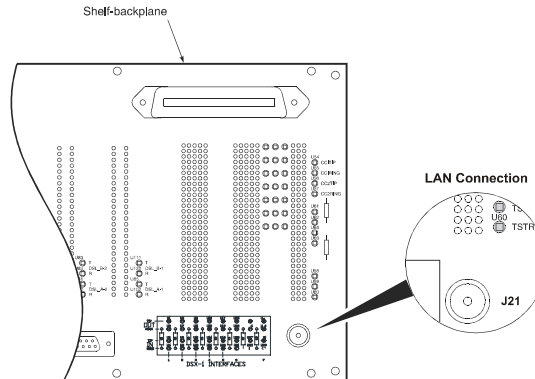

Figure 5. LAN Termination
1. Attach a BNC "T" adapter directly to J21 on each shelf (Figure 5).